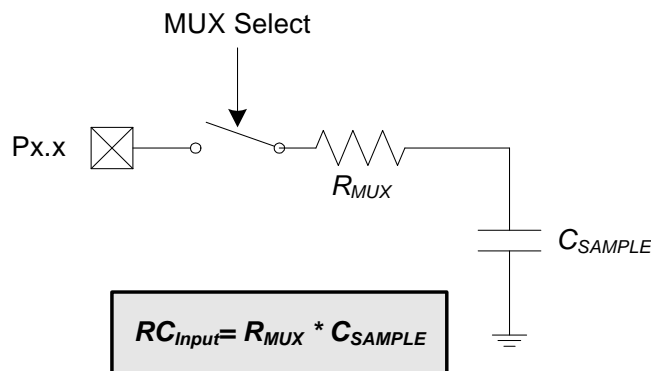

Figure 6.5. ADC0 Equivalent Input Circuit
Figure 6.5 shows the equivalent ADC0 input circuit. The required ADC0 settling time for a given settling accuracy (SA) may be approximated by Equation 6.1. When measuring the Temperature Sensor output, use the tracking time specified in Table 5.10 on page 52. When measuring V_{DD} with respect to GND, R_{TOTAL} reduces to R_{MUX} . See Table 5.9 for ADC0 minimum settling time requirements as well as the mux impedance and sampling capacitor values.